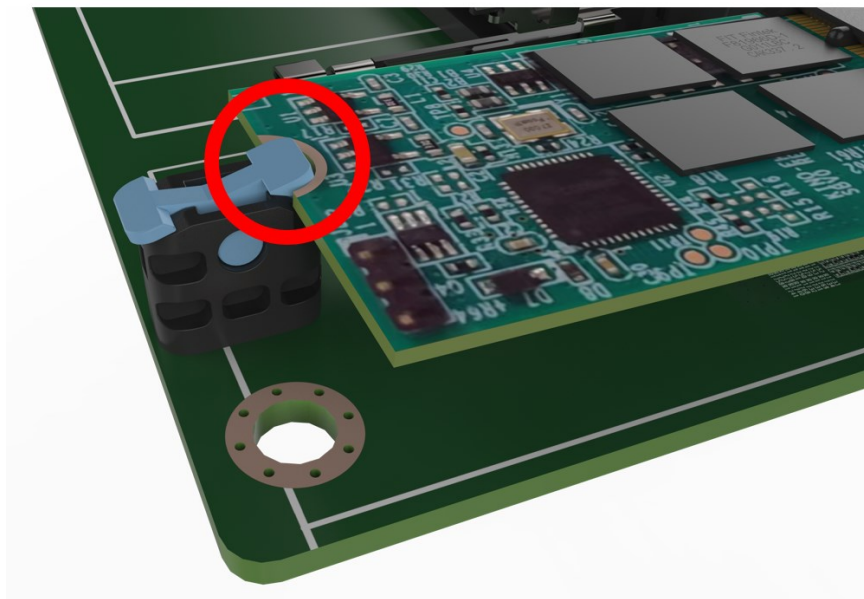

Figure 3-7: Insert M.2 Card
Step 4: Insert M.2 card. The notch at the end of the M.2 card needs to be aligned with the notch of the fixed buckle (**Figure 3-7**).